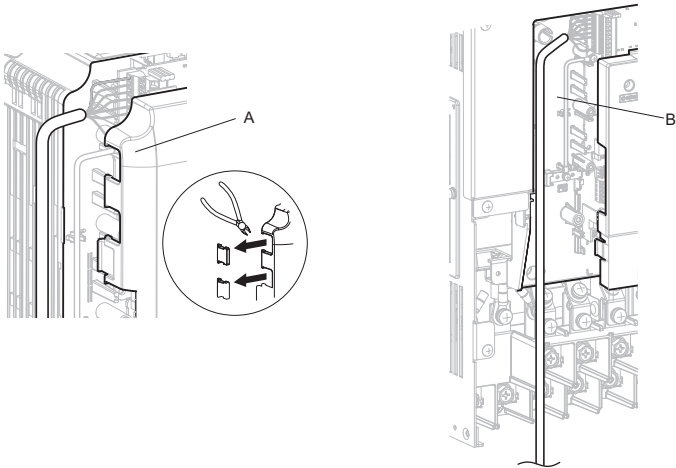

Figure 8 Wire Routing Examples
- Route the option wiring inside the enclosure as shown in **Figure 8-B**. Take proper precautions so that the front covers will easily fit back onto the drive. Users may also choose to route the option wiring through openings on the front cover of some models. Remove the perforated tabs on the left side of the front cover as shown in **Figure 8-A** to create the necessary openings on these models. Refer to the Peripheral Devices & Options section of the drive instruction manual for more information.